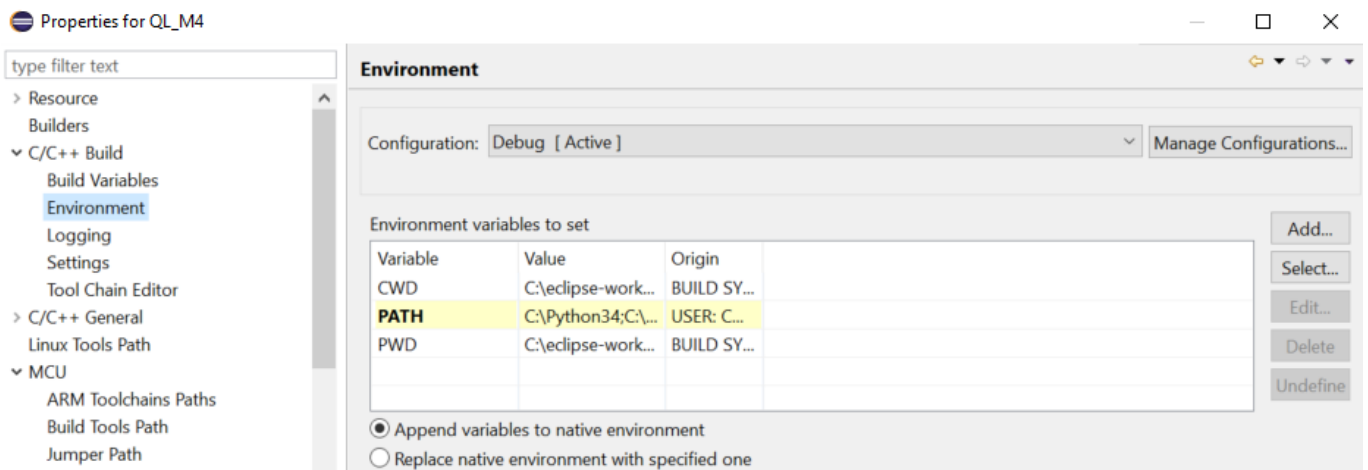

Figure 12 PATH Variables
- Next Open **C/C++ Build >> Environment** and Edit the **PATH**. Add Paths for the bin folder of ARM Toolchains, GNU MCU Build tools (Figure 12) and click on Apply.